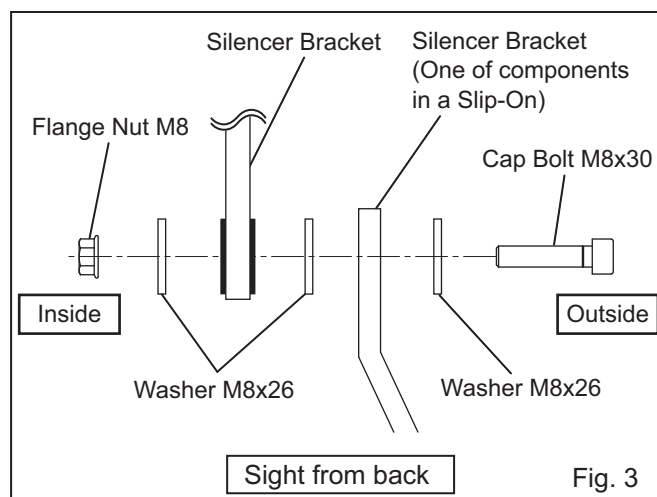

Fig. 3
- 6) After Silencer Bracket is mounted on Silencer Assy in the Slip-On installation instruction procedure, fix these 2 Silencer Brackets with Cap Bolt M8x30, 3 of Washer M8x26 and Flange Nut M8. (See Fig. 3) Tighten the bolt by hand only at this stage.